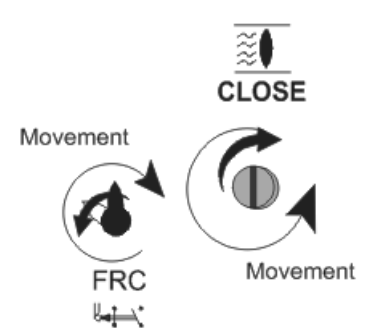

Figure 12.2-5
- If, by accident, it has been carried on turning past the tripping of the FRC microswitch, turn spindle **U** in the opposite direction (counter-clockwise) until the **Z** spindle returns vertical (Figure 12.2-5)